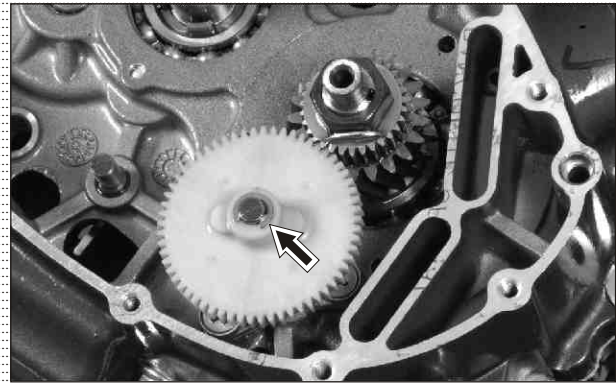

Fig. 3.62
- Remove E-ring from the oil pump shaft and take out gear oil pump driven. (Fig. 3.62)